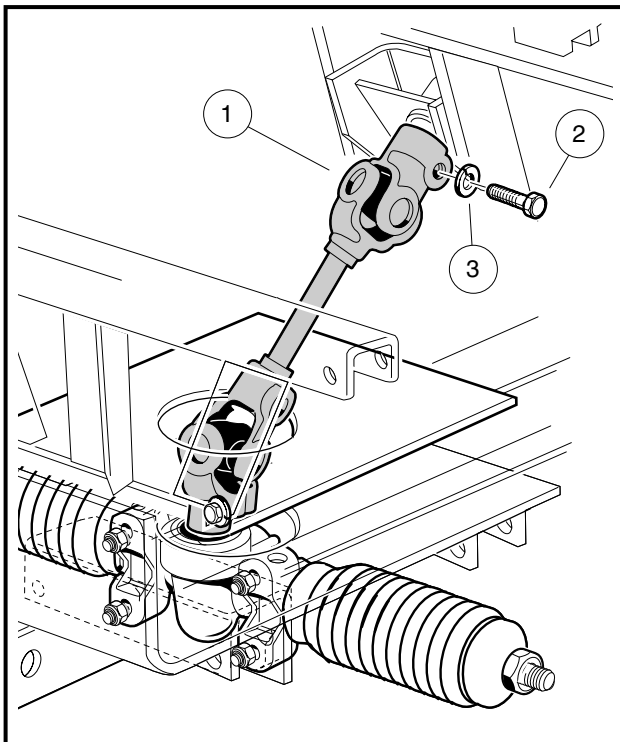

Figure 7-4 Steering Joint Assembly
8. Remove the upper bolt (2) and lock washer (3) from the steering universal joint (1) (**Figure 7-4, Page 7-5**).
10. Disconnect the steering universal joint (1) from the steering column shaft and remove the steering column from the vehicle (**Figure 7-4, Page 7-5**).
4. Install the bolt (2) and lock washer (3) on the upper universal steering joint and finger-tighten (**Figure 7-4, Page 7-5**).